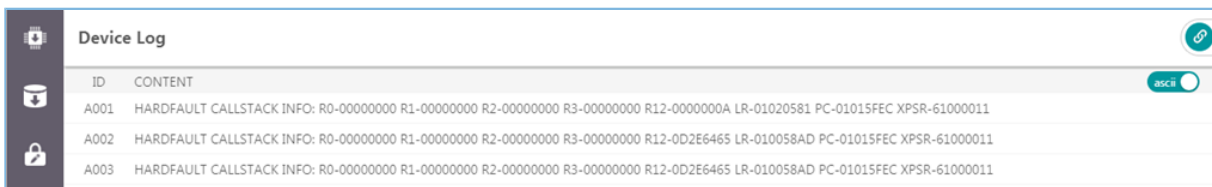

Figure 3-44 Device logs in ASCII characters
- **ascii**: The device logs are displayed by ASCII character as shown in Figure 3-44.